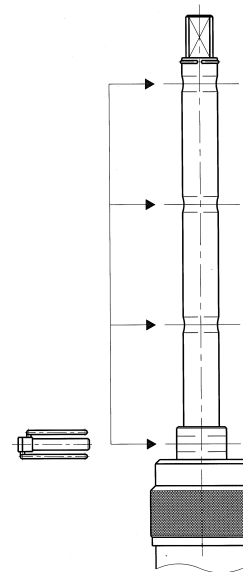

Figure 16
- Select the position of the chuckshaft depending on the distance it will have to travel during drilling (under pressure or pressureless drilling operation), placing the retention mechanism in the most appropriate opening of the four located on the shaft (locking pin or actuator's adapter, according to the operation mode used). See *Figure 16*.